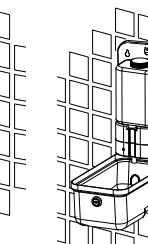

Fig.6
- 4.9 Reinstall the soap tank onto the control module connector and push back under the retainer tab on the back plate (Fig.6).